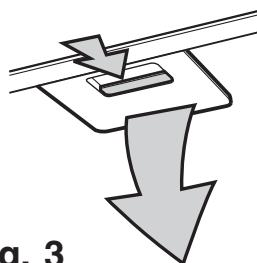

Fig. 3
- Push it towards the back of the unit and then pull it down and out.**Fig. 3.**